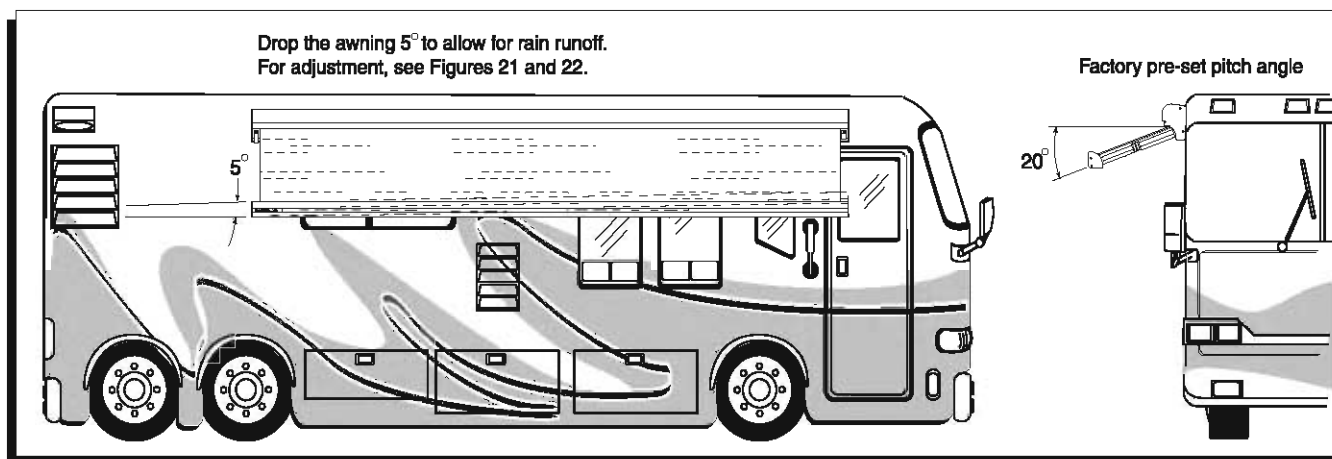
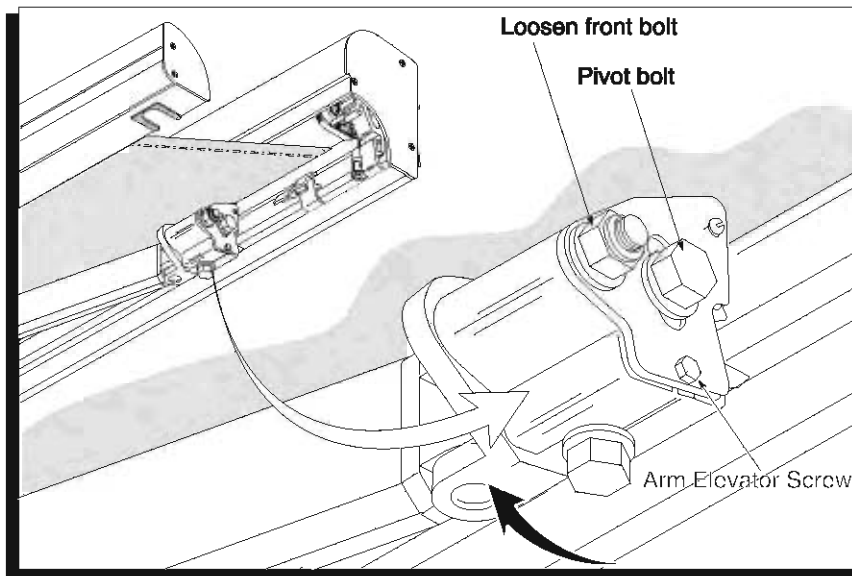

FIGURE 6
FIGURE 7
The awning comes factory pre-set with a pitch angle of approximately 20° (Fig 6), the minimum angle recommended for proper rain runoff. To increase this angle, loosen the pivot bolt located on the outside upper joint of each arm using a 3/4" or 19mm wrench. Use the same wrench to lower or raise the pitch angle by turning the adjustment bolt clockwise to lower, counterclockwise to raise. (See Figs. 7 and 8.)
- 2) At the selected arm, loosen the (2) locknuts located at the side of the upper arm connection using a 19mm (3/4") open-end wrench.
- 3) See exploded view and Figure 7. Locate the smaller adjustment bolt located directly under the rear locknut that was just loosened. Place a 10mm (3/8") open-end wrench around the bolt head, and rotate the wrench in a TIGHTEN (clockwise direction) to raise the arm. Slight rotation is all that is necessary; Likewise, LOOSENING (counter clockwise direction) the bolt will lower the arm. As this adjustment is being performed, keep in mind that after re-tightening the locknuts, the arm will rise slightly higher.
- 4) Tighten the (2) locknuts located on the side of the arm connection.